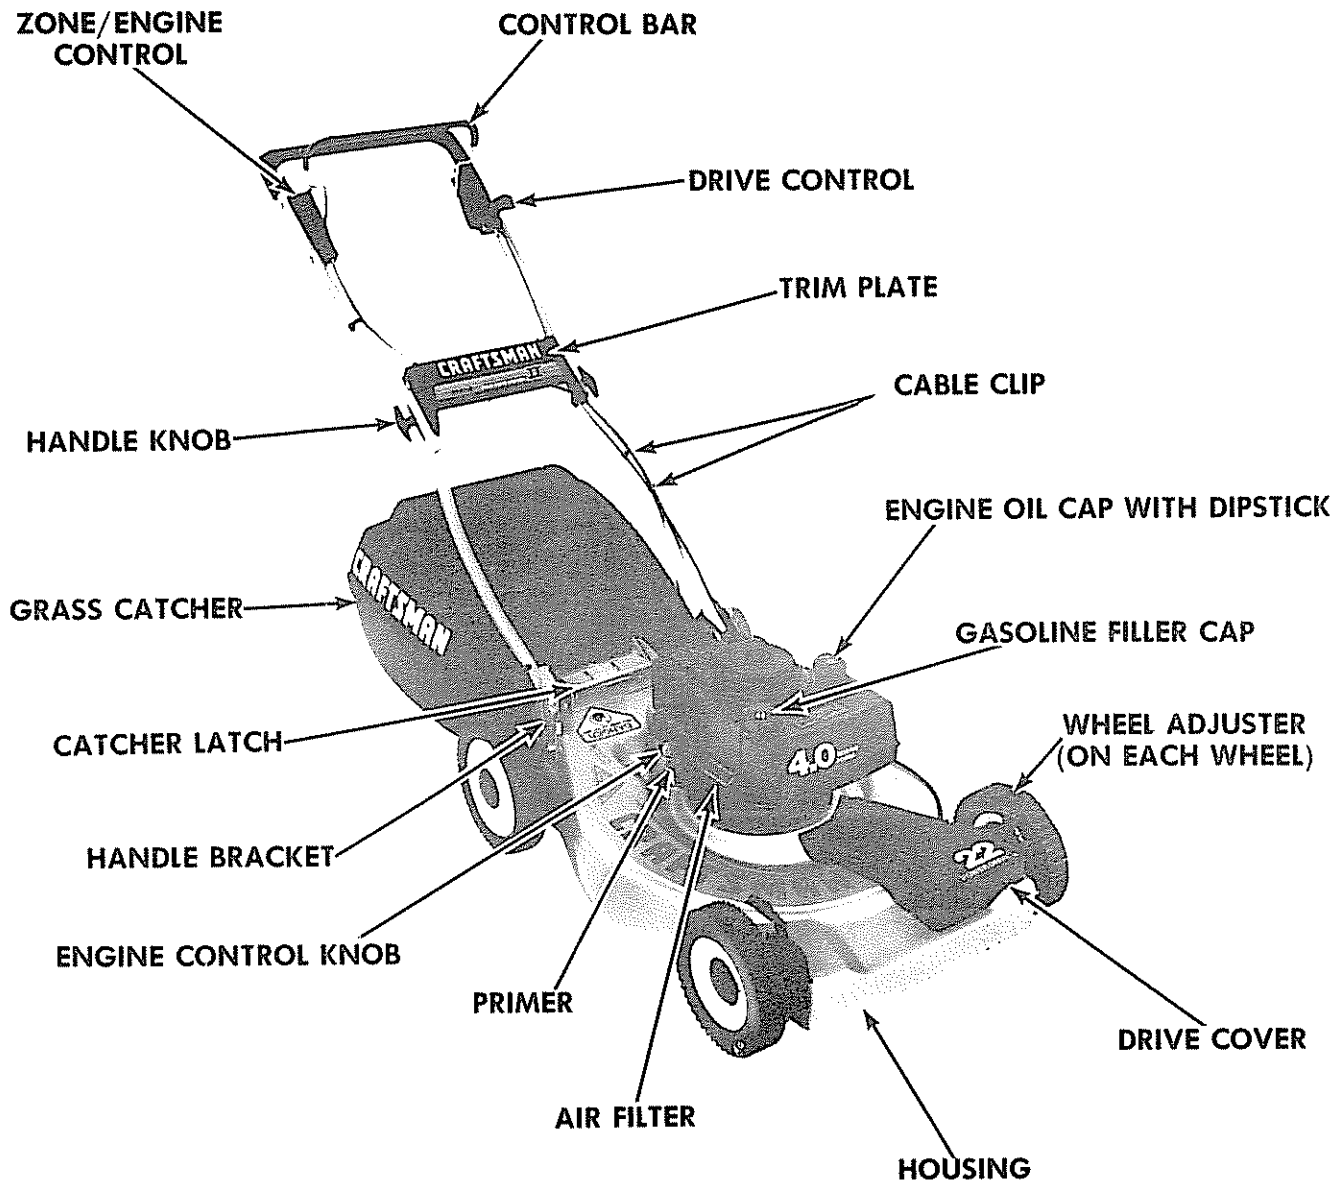

FIG. 1
- a. Remove the two (2) screws and one (1) bolt, washer and locknut holding the trim plate and rope guide to lower handle. Keep for re-assembly (See Fig. 1).
- h. Put trim plate and rope guide back on lower handle, removed in (a) above. Tighten the two (2) screws and one (1) bolt (See Fig. 1).
- i. Snap cable clip over cable and lower handle (See Fig. 1).